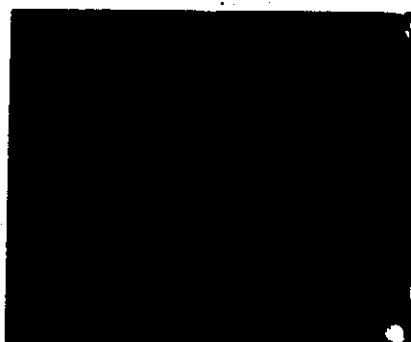

Figure 3-3. Background illumination immediately after erasing with WRITING SPEED in FAST and PERSISTENCE to MAX.
- h. **BACKGROUND ILLUMINATION** — A green cloud of illumination visible on the CRT screen, Figure 3-3.